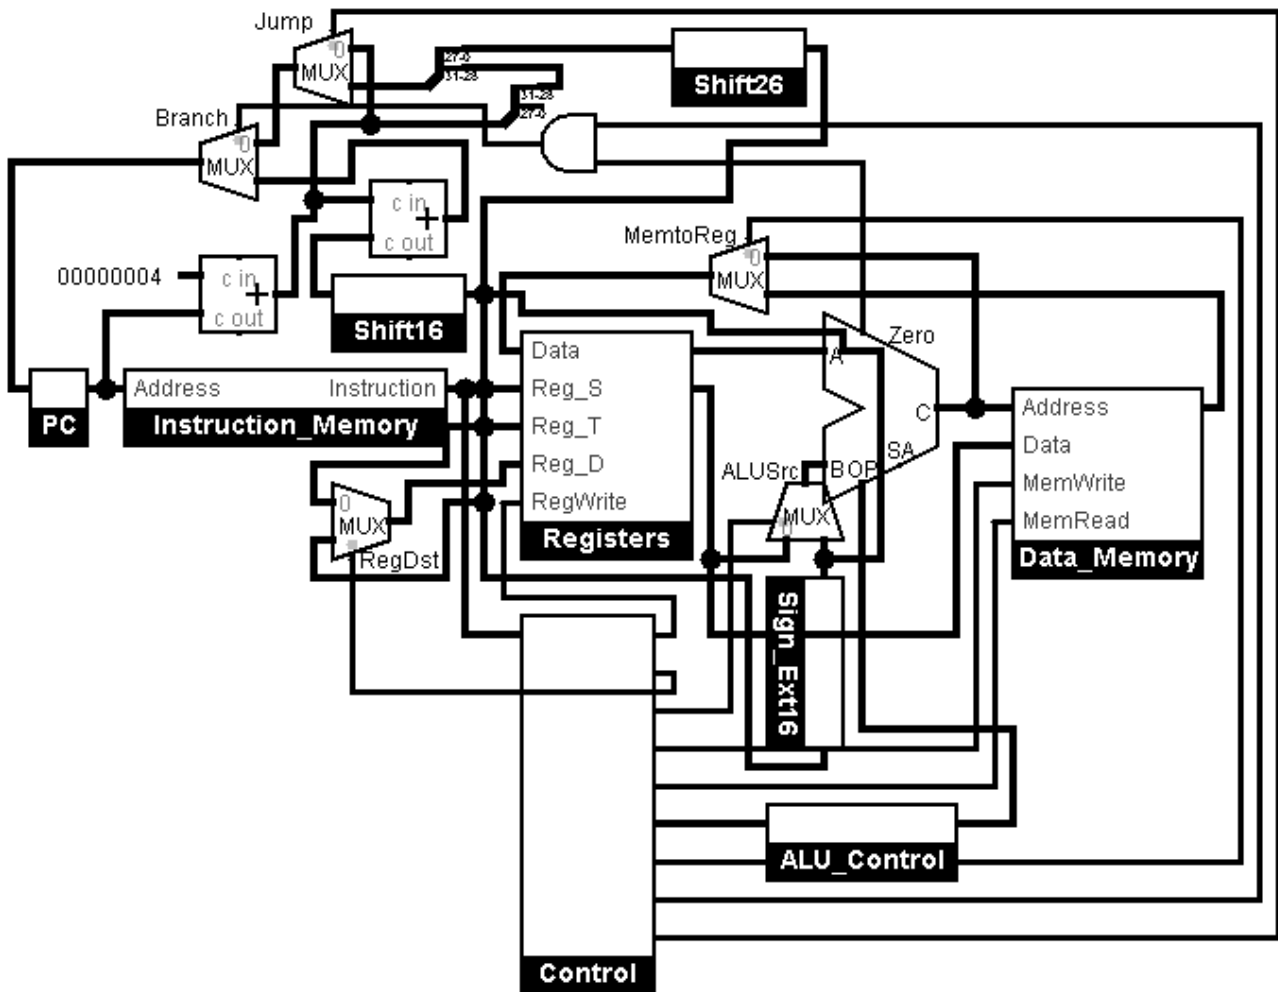

Figure 7: Processor Control and Datapath
- components of the processor design in Figure 7:
- the **datapath** as seen in Figure 7 is composed of the elements that process data and addresses in the CPU
- the datapath in Figure 7 executes a single instruction in one clock cycle: